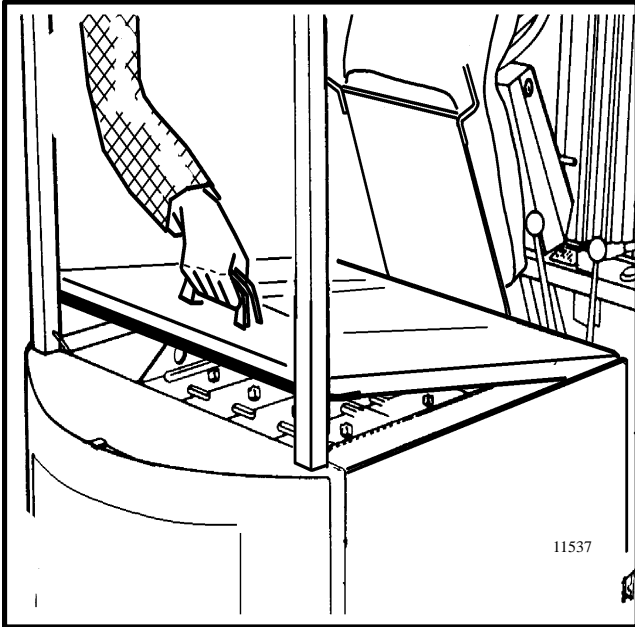
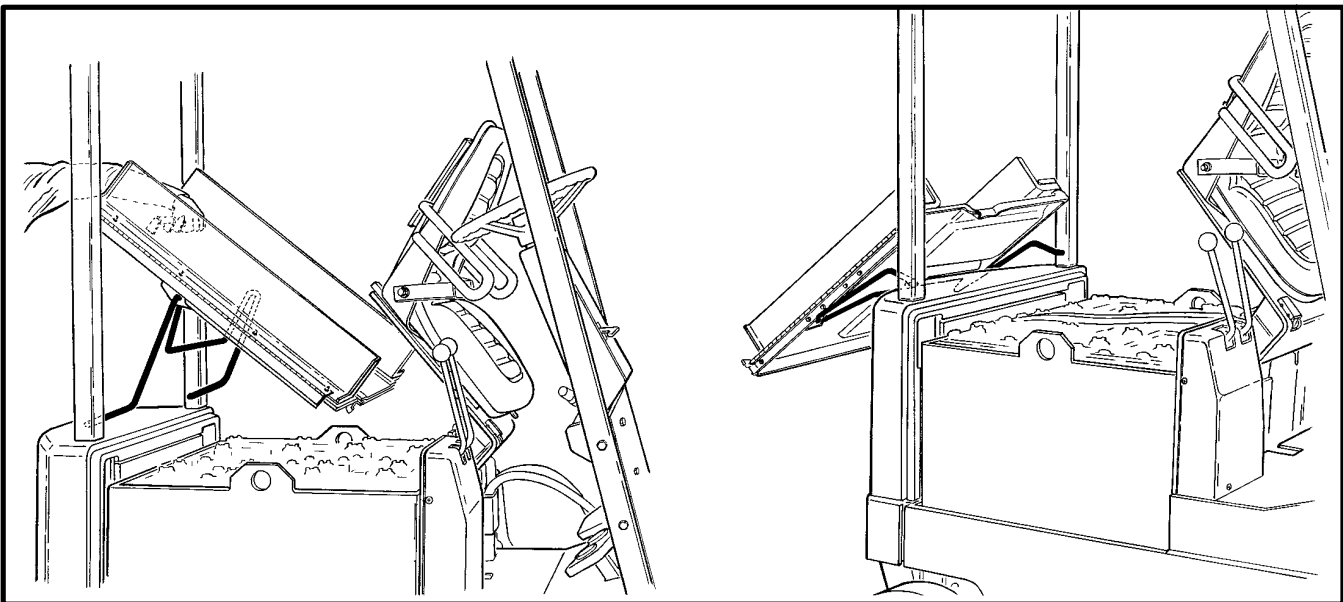

FIGURE 23. OPEN THE HOOD (IRVINE DESIGN)
FIGURE 24. OPEN THE HOOD
2. If the lift truck has a hood, open the hood from over the battery. See FIGURE 24. If the battery is not a covered battery, put an insulating cover over the battery. If the lift truck has a battery retention bar, secure the bar in the UP position.
2. If the lift truck has a hood, open the hood from over the battery (see FIGURE 23. and FIGURE 24.). If the battery is not a covered battery, put an insulating cover
**NOTE:** Lift trucks made in Irvine, Scotland have a different hood design (FIGURE 23.) than lift trucks made in the U.S.A. (FIGURE 24.).